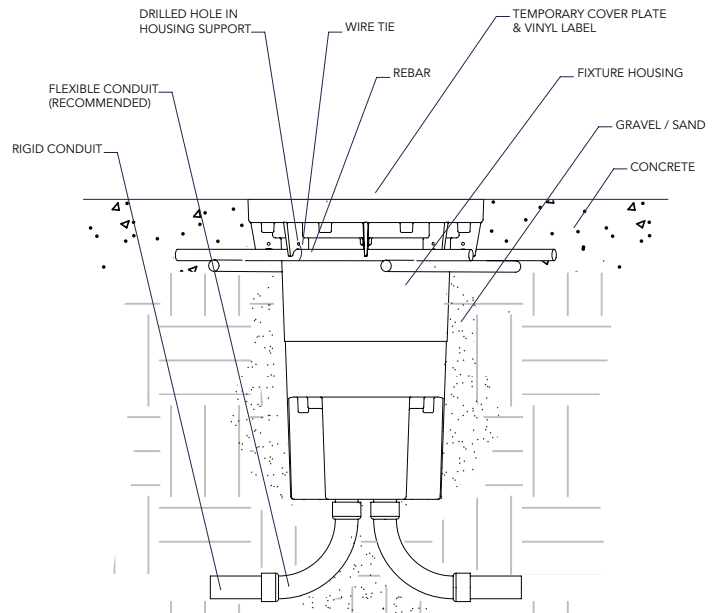

Figure 2
3. Dig hole approximately 15" in diameter to a depth suitable to make top of fixture flush to grade (see fig. 2). Pea gravel or sand is recommended for seating the luminaire housing.